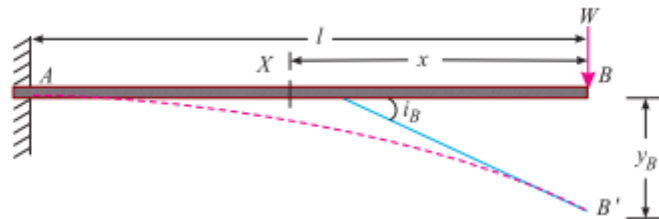

Fig. 6. Experiment Macaulay Method
- While calculating the slopes and deflections, it is convenient to use the values first in terms of kN and metres as shown in figure 6.